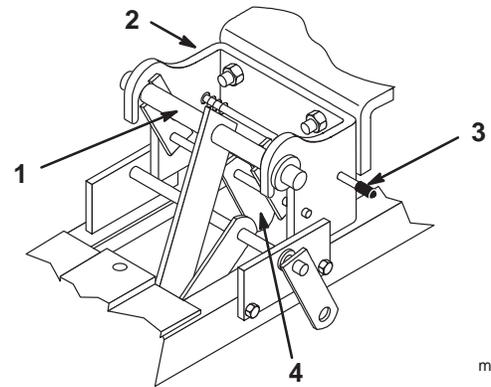

Figure 7
4. Push in on the front hitch release button and open the latch by rotating the latch arm. Slide the front attachment arm into the tractor hitch. Close the latch by rotating it back until the release button pops out to lock it in place (Fig. 7).